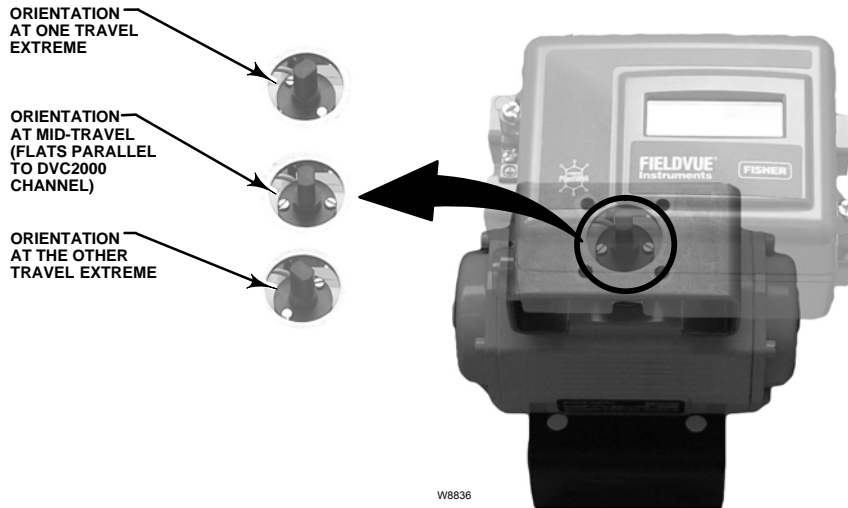

Figure 2-14. Magnetic Assembly Orientation on Quarter-Turn Actuators
2. Attach the magnet assembly to the actuator shaft. At mid-travel, the flats on the magnet assembly must be parallel to the channel on the back of the DVC2000 housing, as shown in figure 2-14.